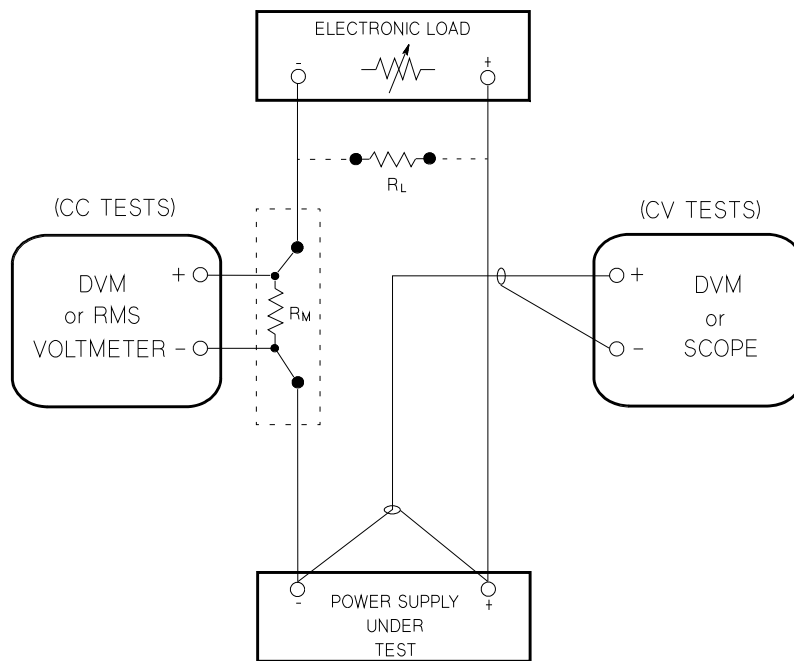

Figure 3-1. Performance Verification Test Setup
To eliminate output current measurement error caused by the voltage drops in the leads and connections, connect the current monitoring resistor between the (-) output terminal and the load as a four-terminal device. Connect the current-monitoring leads inside the load-lead connections directly at the monitoring points on the resistor element (see R_M in Figure 3-1).
- 1 Turn off the power supply and connect a digital voltmeter between the (+) and (-) terminals of the output to be tested as shown in Figure 3-1.
- 4 Operate the electronic load in open mode (input off). Record the output voltage reading on the digital voltmeter immediately. The difference between the digital voltmeter readings in steps (3) and (4) is the CV load regulation. The difference of the readings during the immediate change should be within the limit specified below for each output tested.
- 6 Adjust the autotransformer to high line voltage (127 Vac for nominal 115 Vac, 110 Vac for nominal 100 Vac, or 253 Vac for nominal 230 Vac). Record the voltage reading on the digital voltmeter immediately. The difference between the digital voltmeter readings in steps (5) and (6) is the CV line regulation. The difference of the readings during the immediate change should be within the limit specified below for each output tested.